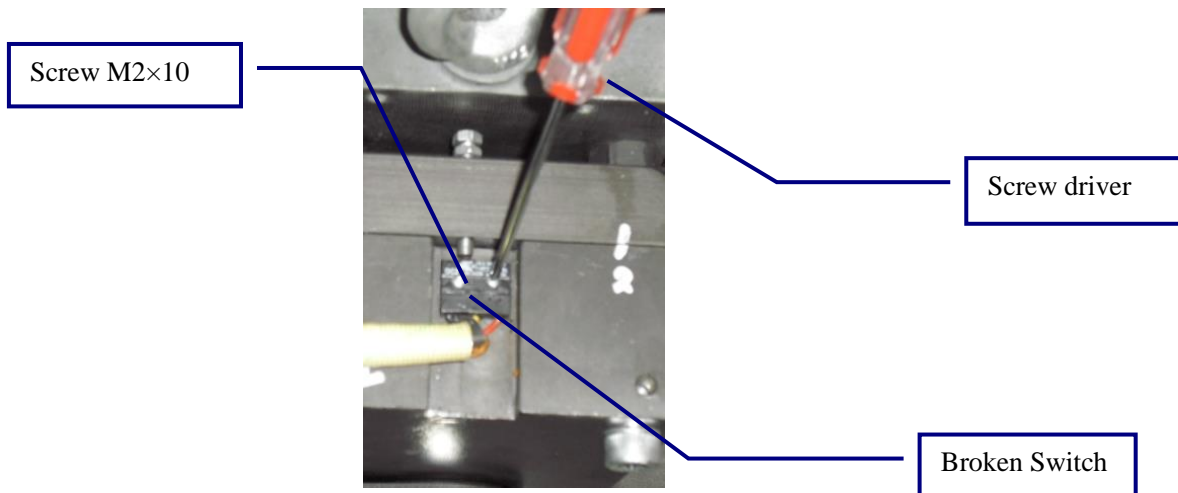

Figure 25: Brake Switch removal
4. Remove the screws M2x10 with the Phillips head screw driver, then remove the defective switch. See Figure 25.